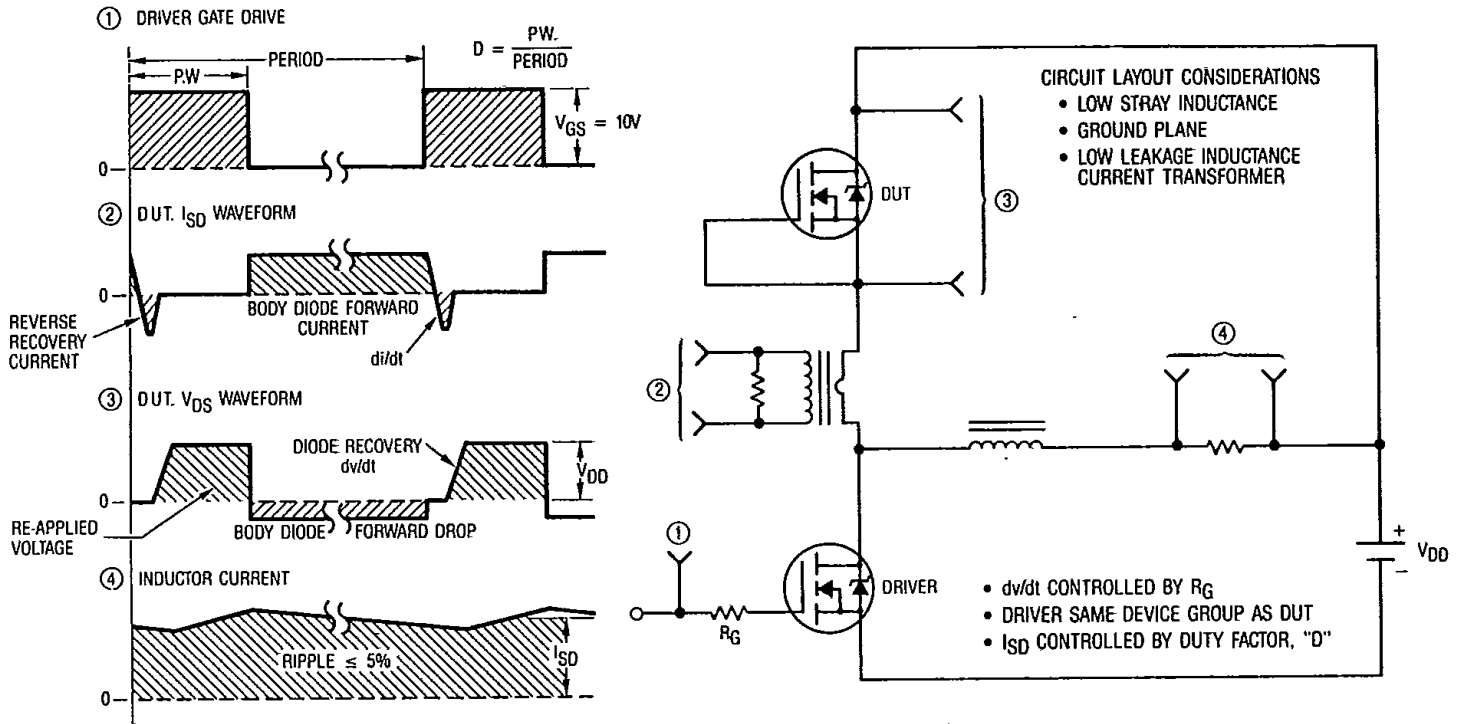

Fig. 17 — Peak Diode Recovery dv/dt Test Circuit
| dv/dt Peak Diode recovery dv/dt ③ | 2.0 (See Fig. 17) | | V/ns |